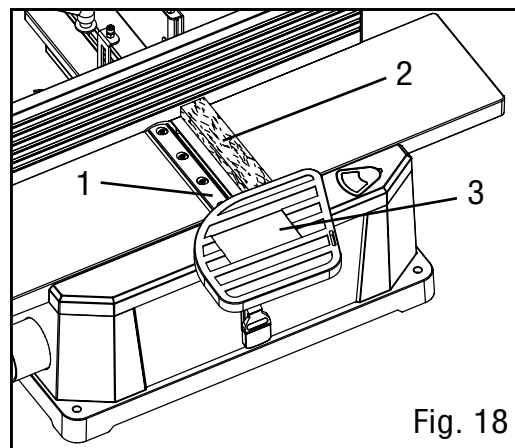

Fig. 18
2. Block the blade guard (Fig. 18 - 3) from closing using a scrap piece of 6-1/4-inch long wood (Fig. 18 - 2) between the fence and the guard.
CAUTION: The cutterhead blades (Fig. 18 - 1) are extremely sharp. To avoid injury, do not let your fingers contact the cutting edge.